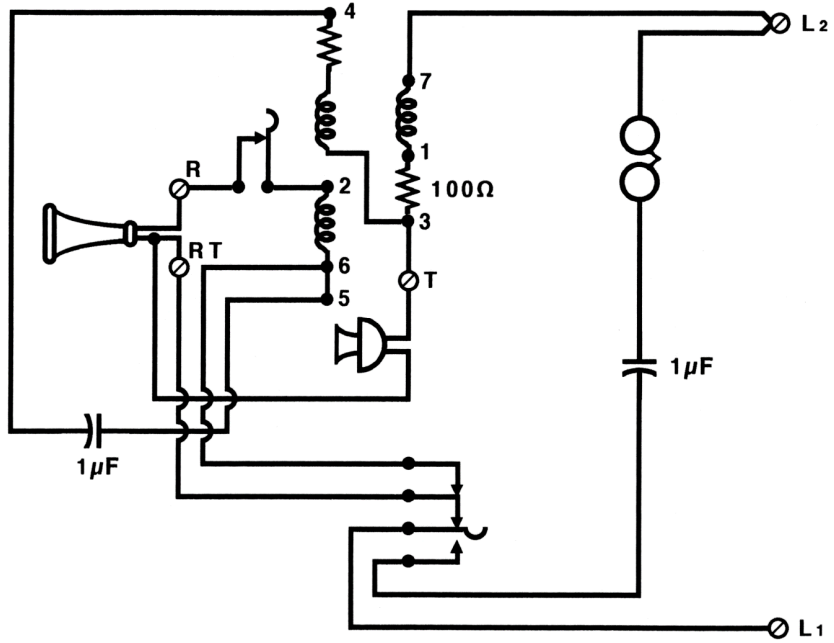

Fig. 17-14 Corrected
- Page 137. In Fig. 17-14, interchange the labels L1 and L2 (modified figure provided below).